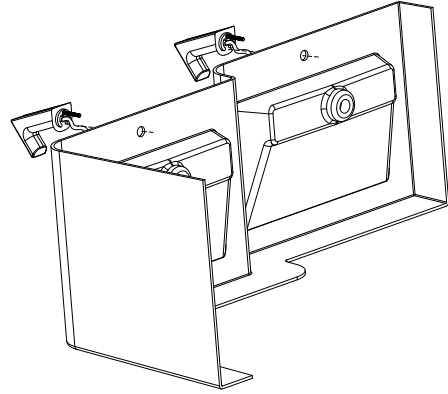

Figure 3
3. Install Faucet spouts, (Figure 3) onto sink according to manufacturer's instructions provided with components.